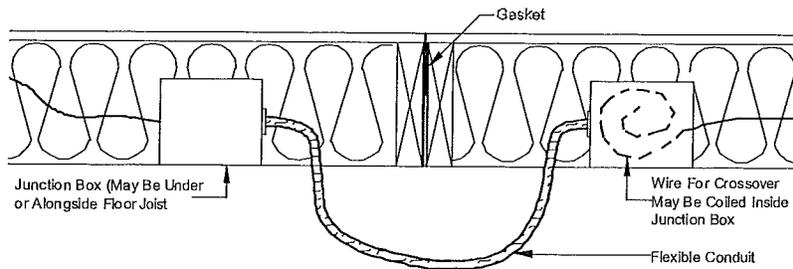

Figure 52. Under the rim joist electrical crossover connection with conduit
2. **Connect wires.** If wire is coiled inside one junction box, insert it into flexible conduit and pass it under the rim joists to the opposing box and make the connection as described above. If no coiled wire is provided, install conduit with wire making connections in both boxes (Figure 52).